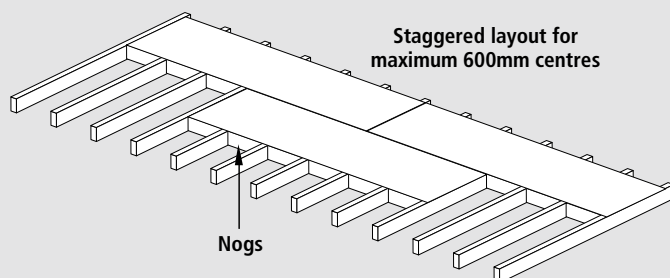

Figure 8.2
- o For joist spacings of 600mm panels shall be laid across the joists. (Refer Figure 8.2)
- o Panels shall always be laid across the joists. (Refer Figure 8.2)